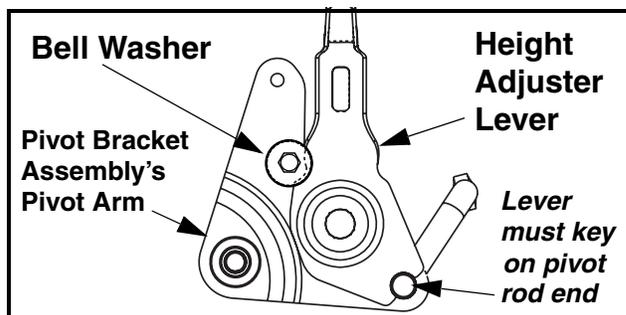

FIGURE 17
46. Using a 3/8" socket and ratchet, secure the new Bell Washer, Item 6, with the TapTite Screw, Item 3, to the left pivot bracket assembly pivot arm as shown in Figure 17. Tighten securely.